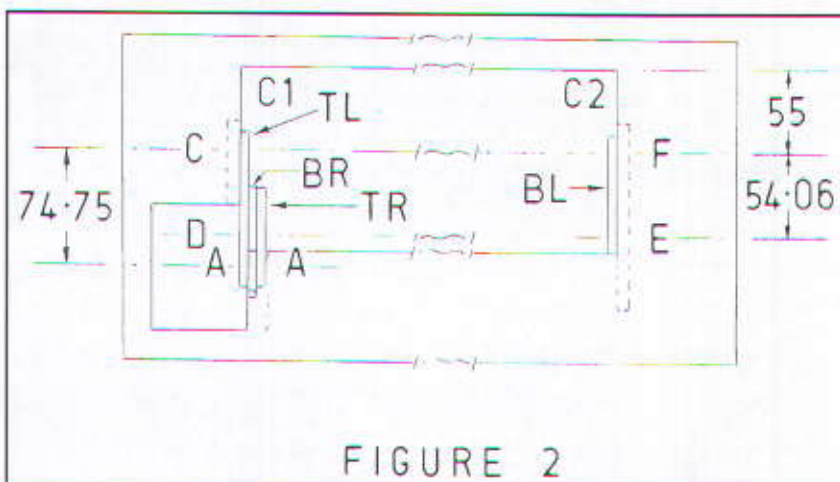

Fig 2. Bracket locations on the bed plate
the bed plate (BP) is shown, as is the edge of the cylinder void (V) nearest to the comb. Other centres are marked to show fixing holes for fastening of brackets to the bed plate: since these positions are not essential for an understanding of the gear train, exact locations are not defined. In order to help the readers identify positioning of brackets and gears on the bed plate, fig 2 repeats a plan of the bed plate from an earlier article, to define where brackets fit into its voids.